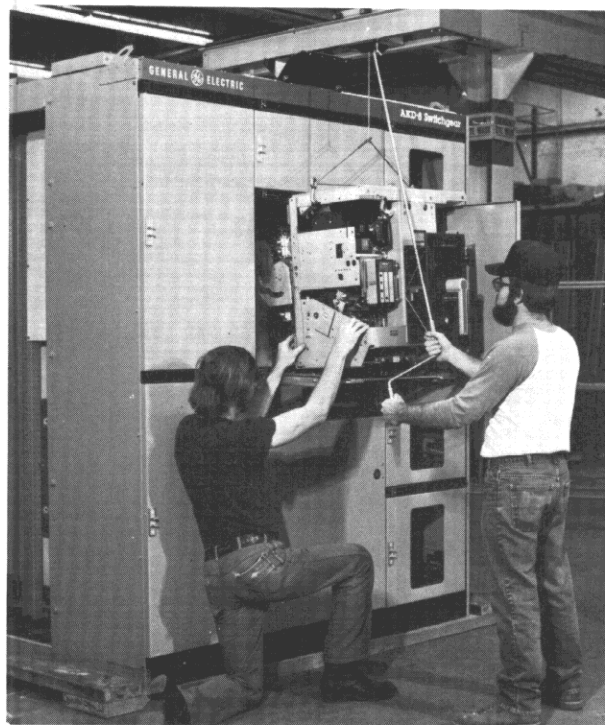

Fig. 5-8. Lower the breaker onto locating pins on the tray. Remove the hoist cable.
5. Slowly lower and guide the breaker to allow the breaker mounting pins to drop into the slots in the rails. See Fig. 5-8. Remove the lifting device. Failure to seat properly may indicate the breaker is being barred by the rejection pins in the drawout rails. With the AKR-30/50 or AKRU-30/50 breakers, the breaker is now completely mated to the drawout mechanism (rails). With the AKR-75/100 breakers, it is necessary to bolt the breaker to the drawout tray.